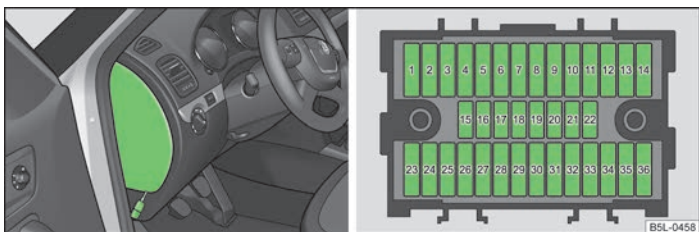

Fig. 165 Fuse box cover in the dash panel/schematic diagram of the fuse box
- Remove the cover for the fuse box using the key to the ignition » Fig. 165.